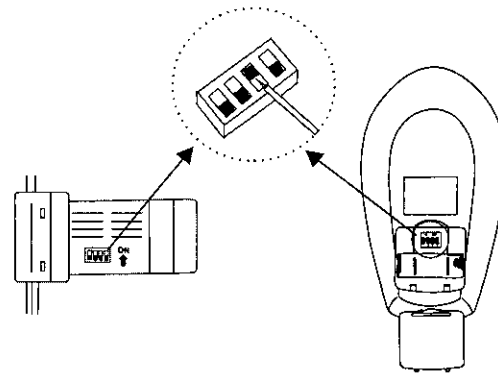

Figure 10
**NOTE:** The Hand Held Remote Control units included with your ceiling fan are equipped with 16 code combinations to prevent possible interference from or to other remote units. The frequency switches on your Receiver and Transmitter units have been preset at the factory. Please re-check to make sure the switches on both units are set to the same positions. The frequency settings should be changed only in case of interference or if a second or more remote controlled ceiling fans are installed in the same room. Any code combination will operate the ceiling fan and light as long as the Receiver and Transmitter units are set to the same codes (Fig. 10)